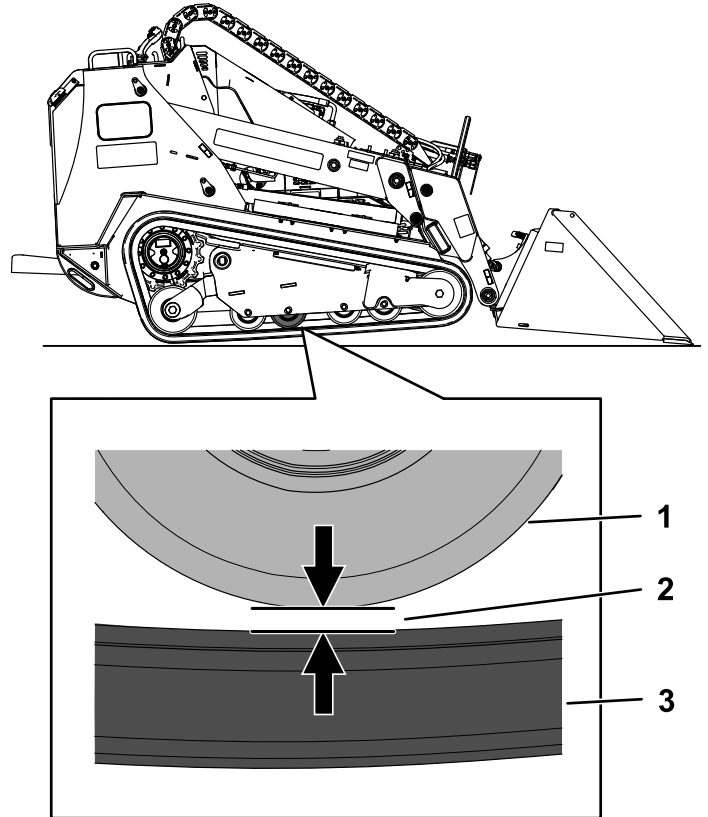

Figure 63
4. Verify that the gap between the 2nd road wheel from the rear and the track is 20 mm (0.8 inch) as shown in Figure 63. If adjustment is needed, proceed to Adjusting the Track Tension \(page 48\)
7. Using a 1/2 inch drive ratchet, turn the tensioning screw until the gap between the road wheel and track is 20 mm (0.79 inch) as shown in Figure 63.
the road wheel and track is 20 mm (0.79 inch) as shown in Figure 63.